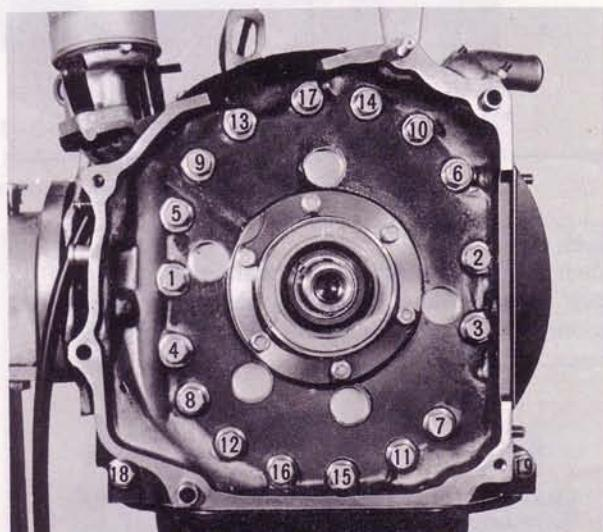

Fig. 1-75 Tension bolt tightening order
3. Fit the tension bolts and tighten the bolts gradually in the order shown in Fig. 1-75. The specified torque is $3.2 \sim 3.8 \text{ m-kg}$ ($23 \sim 27 \text{ ft-lb}$). Do not tighten the tension bolts at one time.